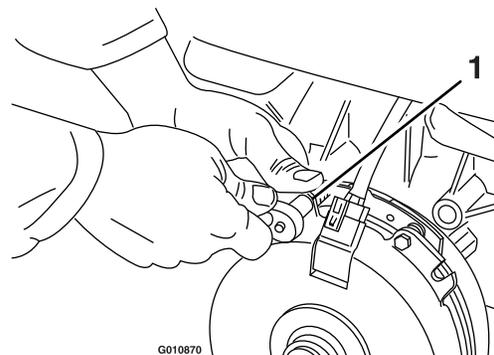

**Figure 69**
2. Using an air compressor, blow out any debris from under the brake pole and around the brake spacers (Figure 69).